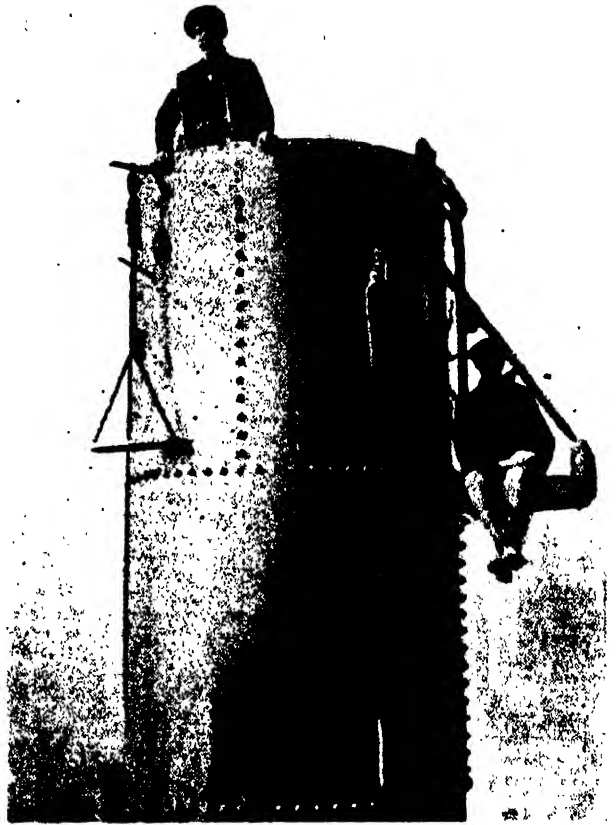
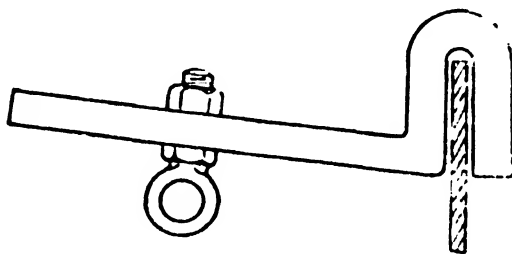

FIG. 72.—Steel Chimney Erection.
FIG. 74.
**Erecting.**—The photograph (Fig. 72) is of a steel chimney, one of two being erected over a boiler plant. The caps were 120 ft. above ground level, which is perhaps the maximum height for such steel stacks. When a start is made to build one a light long derrick, or for preference a Scotch
**The Cage.**—The outside scaffold consists of a cage which is reached by means of a bosun's chair, the latter being seen on the left of the chimney in Fig. 72. The framework of the cage is of light section angle iron braced with light flat bars for rigidity. The back, which is curved, has two grooved wheels attached to the uprights; these grooved wheels, which are about 4 in. diameter, travel along the top edge of the plated rounds.
in Fig. 74. The gallows is made slightly acute at the bend; this gives it a better appearance than if made square, because on the thinner plates the drop is excessive by reason of the clearance in the jaw. A wire hook can be seen near the non-slip knot in Fig. 72, the ring of the hook being threaded on as the knot is being formed. This hook is for hoisting small articles, and bags of bolts and rivets.